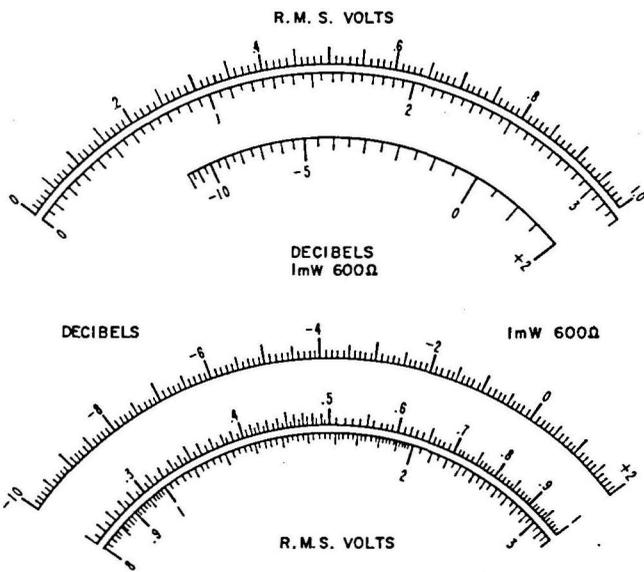

Fig. 2—Typical Meter Scales of the VTVMs
1.07 Each model VTVM has three calibrated scales on the panel meter (Fig. 2). The 400D and 400H have two linear RMS VOLTS scales, 0 to 1 and 0 to 3, and one DECIBELS scale, -12 to +2. The meters used in the 400H and 400L